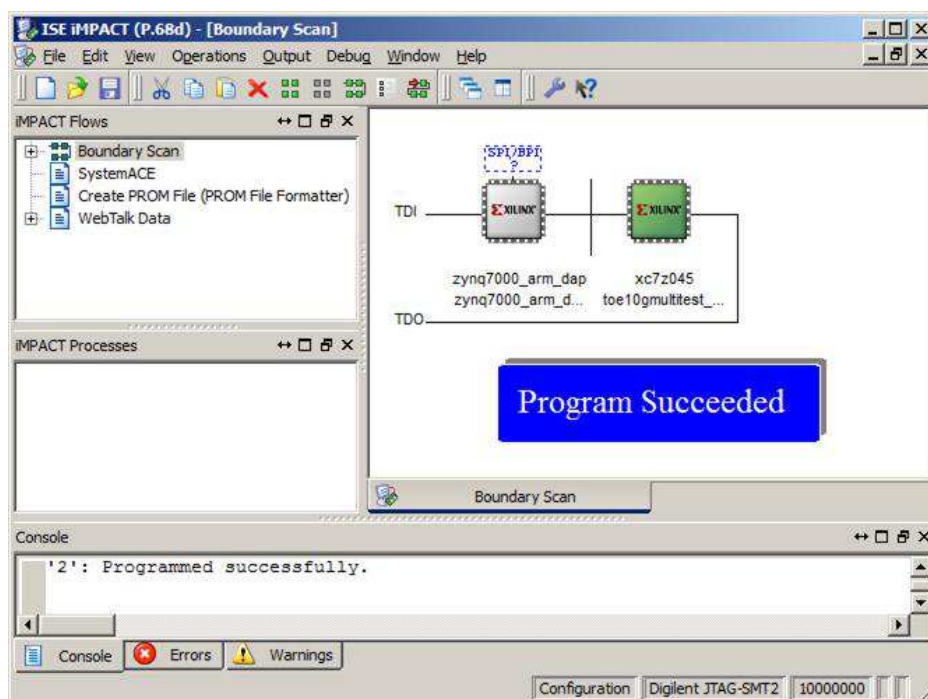

Figure 3-5 Programmed by iMPACT
- 7) Open iMPACT/Vivado to download bit file to FPGA development board, as shown in Figure 3-5.